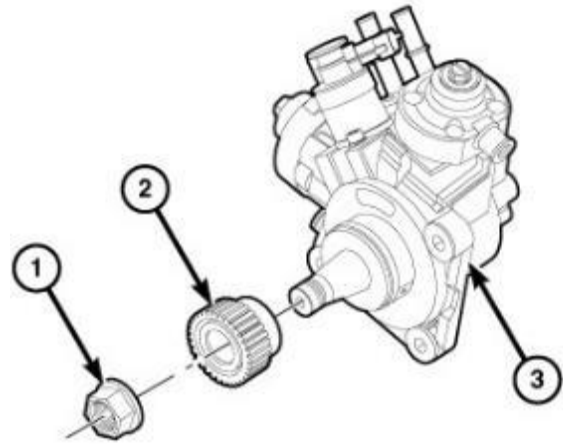

Figure 17 - Drive Gear on the HPFP
26. The use of Puller 1023 or a commercially available gear puller is required to remove the fuel injection pump gear (2) (Figure 17).
28. Install the gear (2) and **NEW** nut (1) onto the **NEW** high-pressure pump (3) and tighten the nut (1) finger tight (Figure 17).